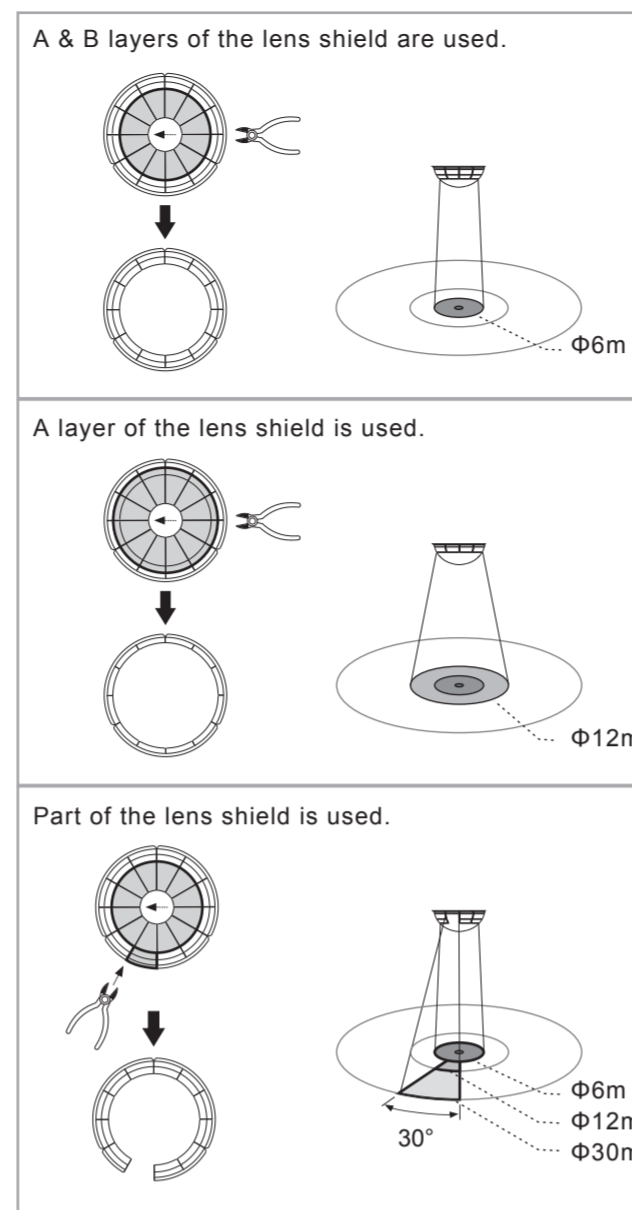

FIG.19-B
• The shadow part of the lens shields in the FIG.19-A & FIG.19-B is needed to be cut off.